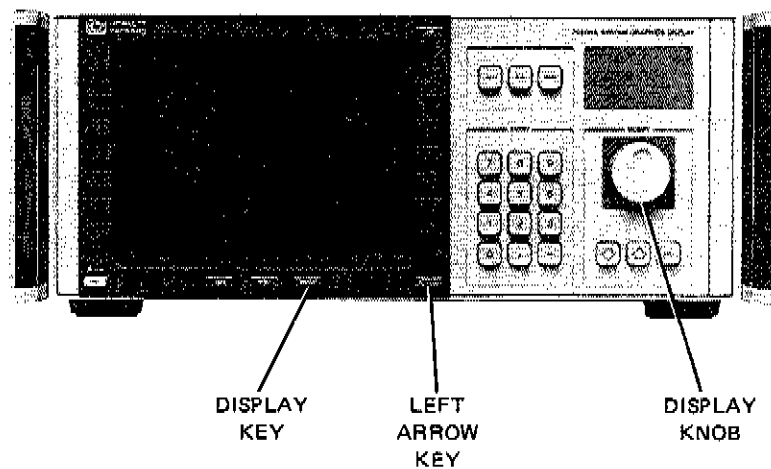

Figure 6. Display Keyboard
- e. Once this adjustment procedure is completed, press the left arrow key (refer to Figure 6), to return to the main menu.
- c. Once this adjustment procedure is completed, press the left arrow key (refer to Figure 6), to return to the main menu.
- b. Press the left arrow key (refer to Figure 6 for location).
- d. Once this adjustment procedure is completed, press the left arrow key (refer to Figure 6) to return to the main menu.
- d. Once this adjustment procedure is completed, press the left arrow key (refer to Figure 6) to return to main menu.